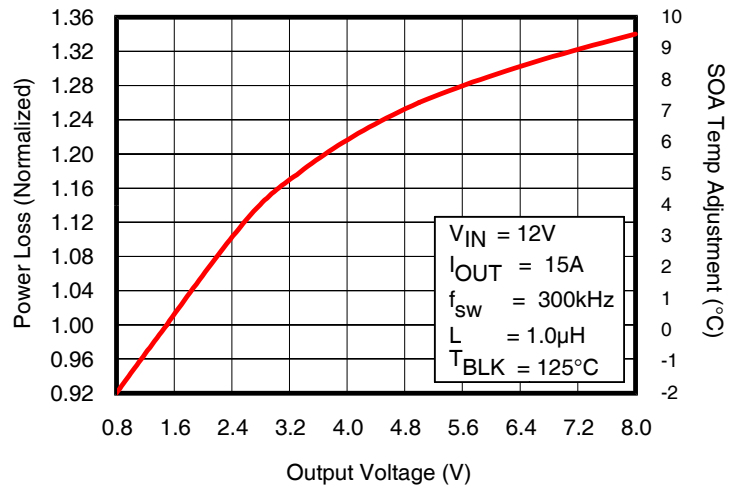

Fig. 5: Normalized Power Loss vs. V_{OUT}
- (Fig. 5) Normalized power loss for output voltage ≈ 0.97
- (Fig. 5) Normalized SOA Temperature for output voltage $\approx -0.75^{\circ}\text{C}$